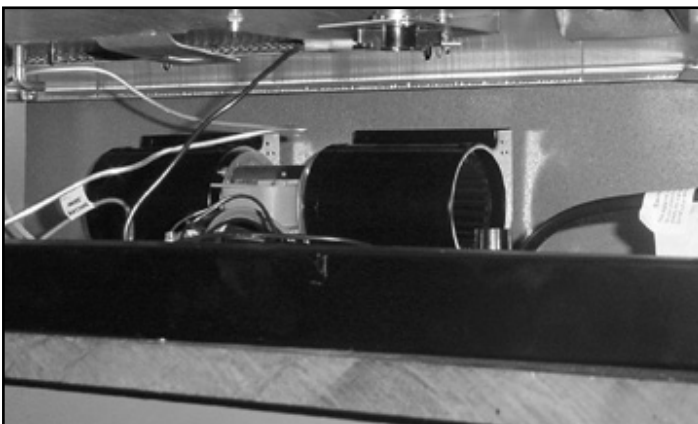

Figure 4 Positioning Fan
- Rotate the fan so the back (with the foam strips) is flush and centered against the back of the appliance's outer shell. See Figure 4.